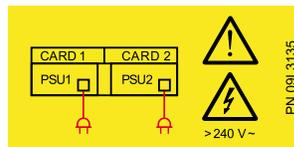

Figure 2. Linecord caution label
2. Verify that the linecord caution label is installed on the 2104 Model DS4 or Model TS4 power supply. See Figure 2.